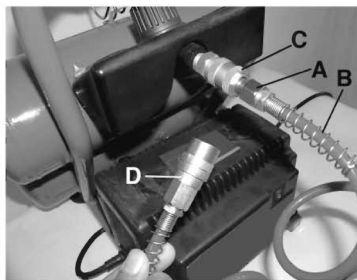

FIGURE 7
2) Attach the 1/4in. female fitting (A Fig.7) to one end of the coil hose (B), then connect the female fitting (A) into the quick connect outlet (C) at the back of the compressor, then attach the 1/4in. female quick connect (D) to the other end of the coil hose. Attach optional air tool or supplied accessories. To prevent air leaks, it is recommended to install Teflon Tape (not supplied) on the threads at both ends of the coil hose.